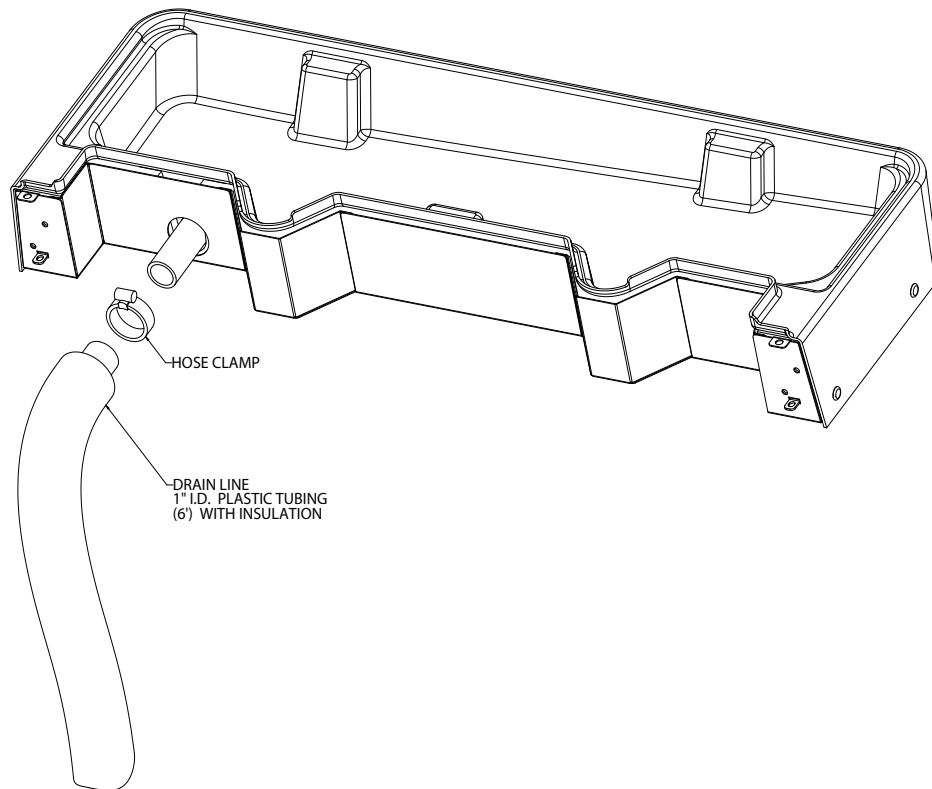

Figure 7. Drip Tray Drain Assembly
3. DRIP TRAY DRAIN ASSEMBLY (see Figure 7): Route the drain tube to an open drain with the end of the tube above the “flood” level of the drain. Use the tubing, fittings, clamps, and insulation provided with the Dispenser to assemble the drain. The completed drain line *must* pitch continuously downward and contain no “traps” or improper drainage will result.